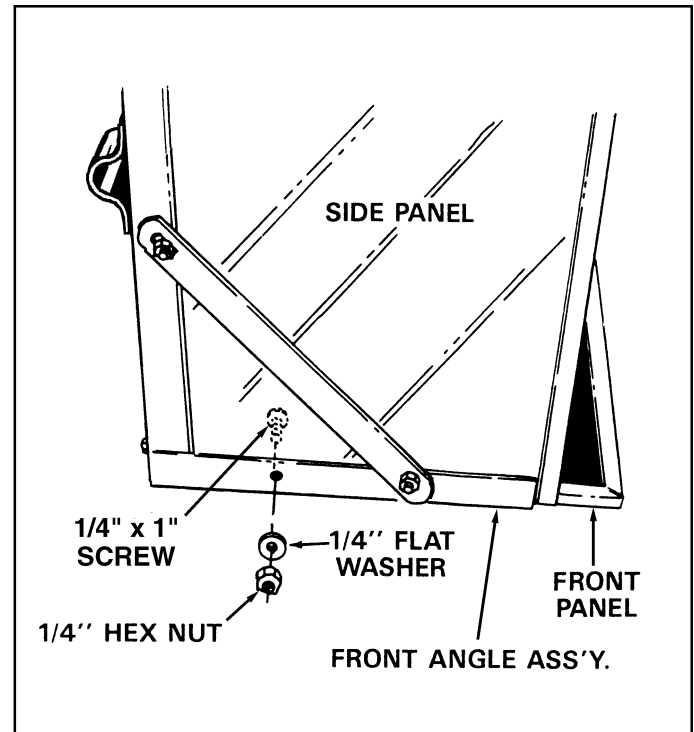

FIGURE 8
13. Assemble one 1/4" x 1" screw through bottom hole in side panel and front angle assembly. Secure with a flat washer and hex nut, **making only finger tight at this time.** Repeat for the other side panel. See figure 8.